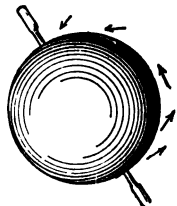

FIG. 199.—Gilbert's terrella or little earth.
**236. The earth a magnet.** An Englishman, Gilbert, in the sixteenth century was the first to explain these curious magnetic phenomena. He had ground a little lodestone into the shape of a globe, and noticed that when tiny compass needles were brought near it, they acted just like compasses on the surface of the earth. So he called his lodestone globe the "terrella" or "little earth" (Fig. 199), and came to believe that it gave a true representation of the earth itself.